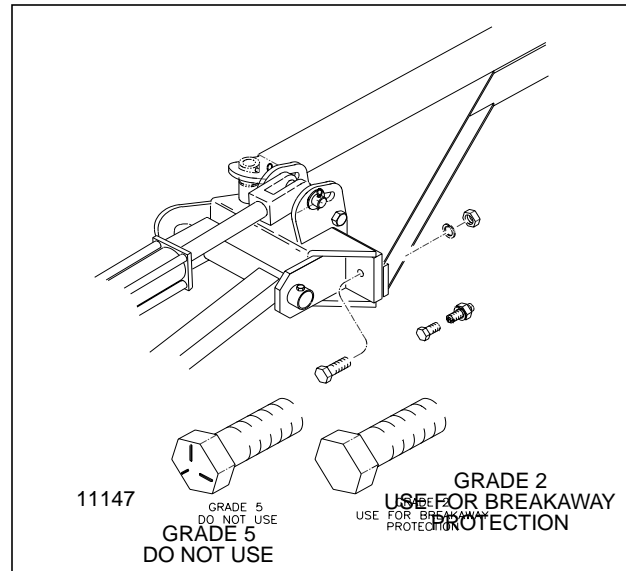

Fig. 11
**NOTE:** The breakaway bolt is a 7/16"-14 x 2" long - grade 2 (G.P. # 802-353C). It is identified as a grade 2 by having no marks on the head. If it breaks, it must be replaced by an equivalent grade 2 bolt to prevent marker damage. See Fig. 11.